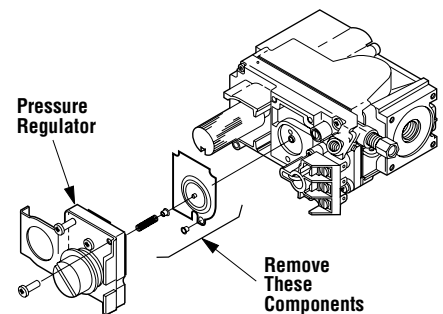

Figure 27
Step 4. SIT Systems - See *Figure 27* and the instructions provided with the kit. Using a Torx T20, remove and discard the three pressure regulator mounting screws. Remove the pressure regulator, spring, poppet, diaphragm and bushing. **Discard all removed components.**